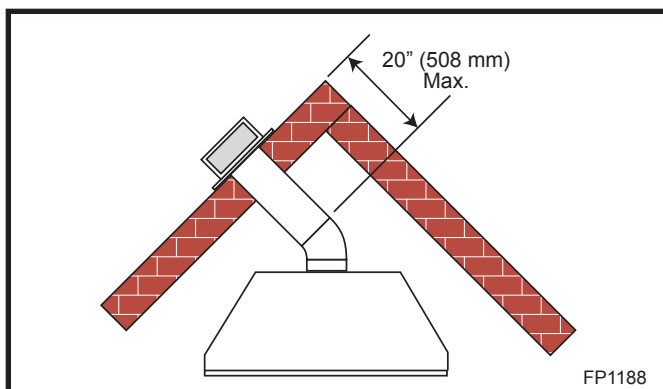

Fig. 16 Rear vent application, one 45° elbow.
- The maximum horizontal distance between the end of the transition elbow in a corner application and the outside face of the rear wall is 20" (508 mm). (Fig. 16)